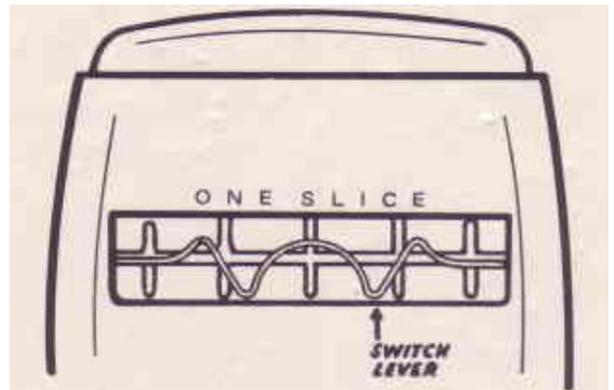

Figure 1
2. On the top of the toaster beside one of the toasting slots or compartments the words "ONE SLICE" are marked. Inside the slot is a shaped piece of wire (see Figure 1) called the Switch Lever. When a SLICE of bread is dropped into this toasting slot it depresses the Switch Lever and turns the toaster on.